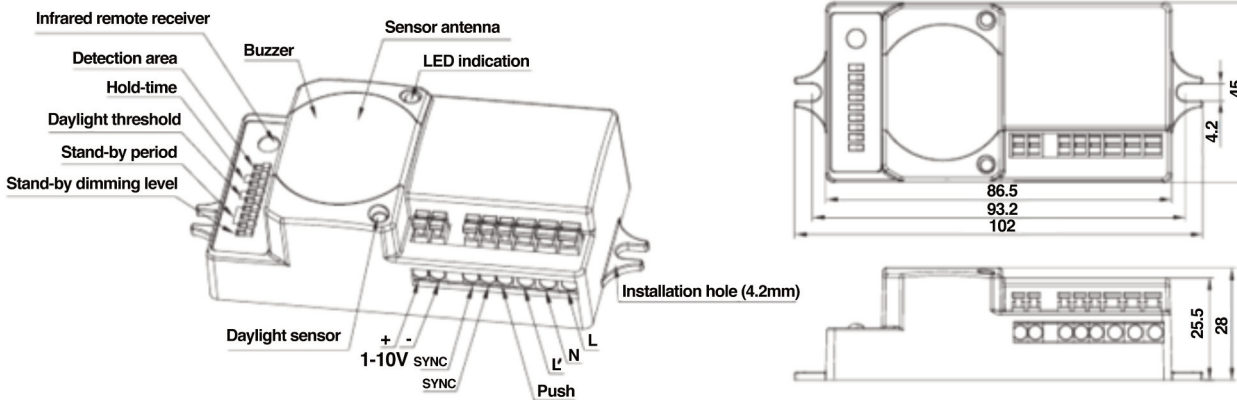

Fig. 3
3. Mount surface mount plate onto J Box. **(Fig. 3)**
3. Remove driver by unfastening 2 screws. **(Fig. 3)**